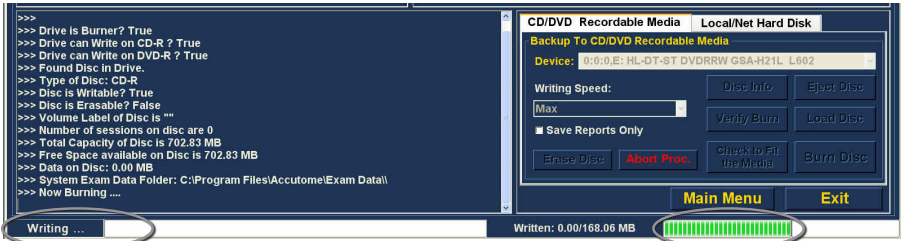

Figure 8.8 - Disc Burning Progress
- While the disc is burning the archive screen will display in the process information area the burning progress as shown in Figure 8.8. Disc burning information includes textual information and burn progress in the status bar at the bottom of the screen.